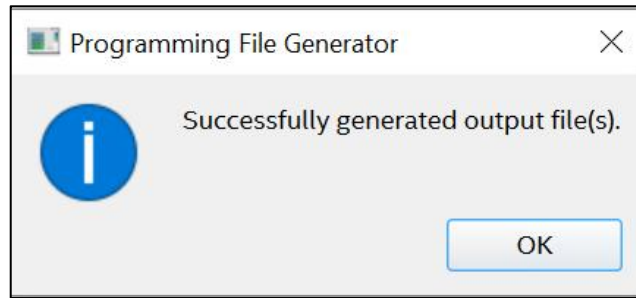

Figure 5- 12 Generated file successfully
2. Verify that the MSEL Settings Switch on DE23-Lite is set to AS mode (MSEL[2:1] = 2'b00) as shown in Figure 5- 2.